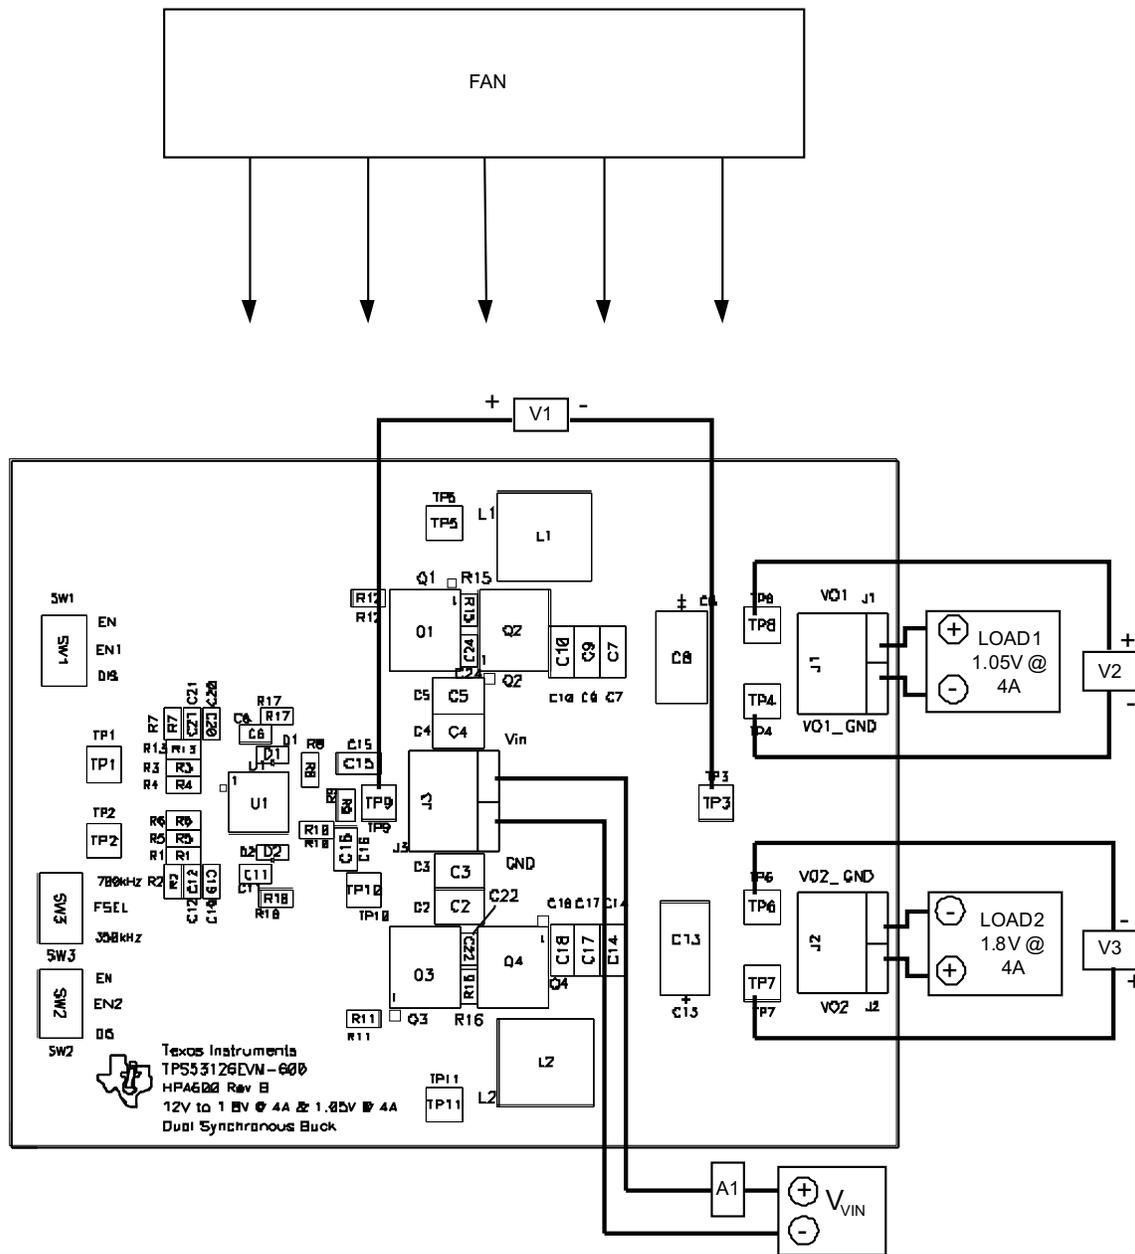

Figure 3. TPS53126EVM-600 Recommended Test Setup
Figure 3 shows the recommended test setup to evaluate the TPS53126EVM-600. Working at an ESD workstation, ensure that any wrist straps, bootstraps, or mats are connected referencing the user to earth ground before power is applied to the EVM. An electrostatic smock and safety glasses also are recommended.
4. Place a fan as shown in Figure 3 and turn on, making sure air is flowing across the EVM.